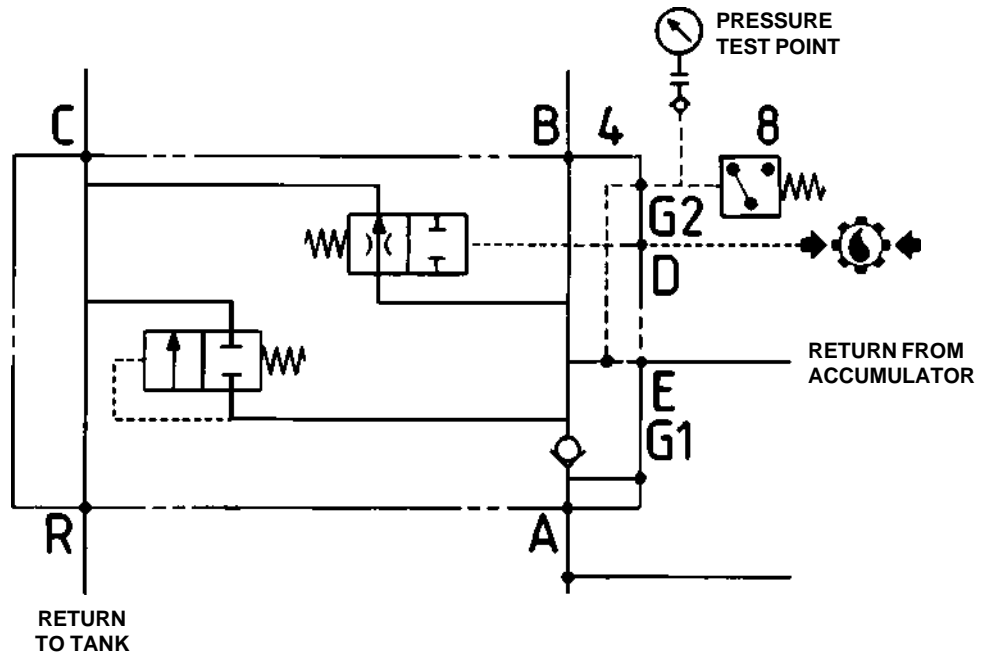

Fig. 3 - Two-way Valve De-energized
When engine is shut off, transmission pilot pressure dissipates, and spring (15) shifts the two-way valve (13 thru 17) to the de-energized (open) position. This allows oil to flow back from the accumulator through port 'E' into an internal passage, past piston (13) and exits through port 'R' to tank. Refer to Fig. 3.